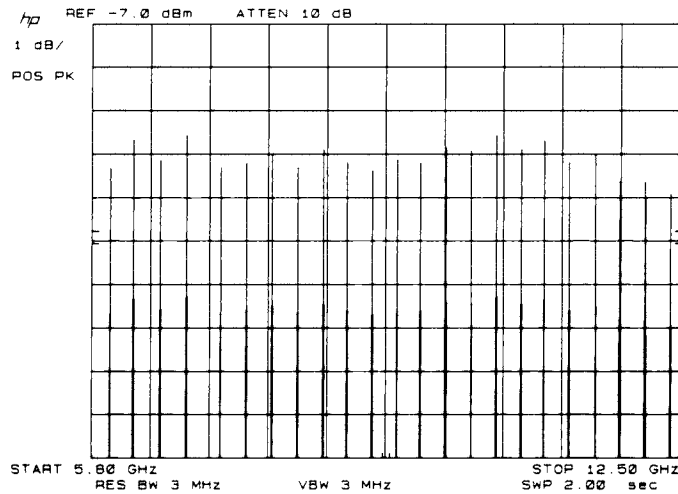

Figure 3-97.
97. On the spectrum analyzer, key in **TRACE A** **CLEAR-WRITE**, **SWEEP TIME** 2s, **MARKER** **OFF**, **HOLD**. As the spectrum analyzer completes each sweep, a series of approximately 23 new responses should be displayed, as shown in Figure 3-97. The